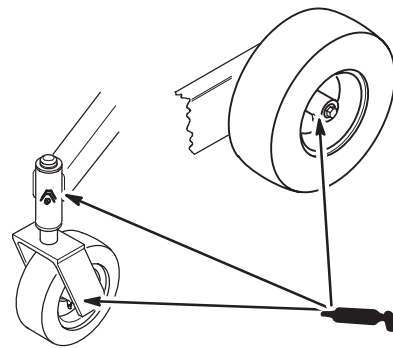

Figure 32
1. Lubricate the front wheel bearings and front spindles until grease begins to ooze out of the bearings (Fig. 32).
2. Remove rear wheel grease cap. Lubricate the rear wheel bearing (Fig. 32).
1. Lubricate the transmission couplers located in the back of the machine (Fig. 32).